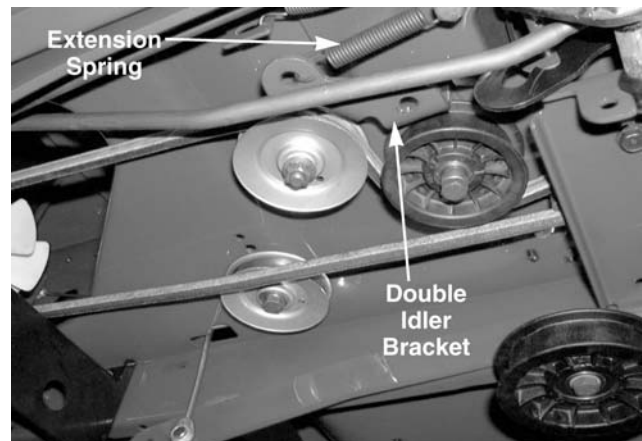

Figure 9-41
6. Remove the extension spring from the double idler bracket assembly and set it aside. See Figure 9-41.